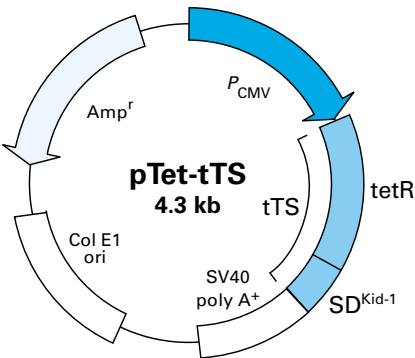

Figure 1. Map of the pTet-tTS vector.
Figure 1. The pTRE-Tight-BI expression vectors. The pTRE-Tight-BI response vectors contain the Tet-responsive element (TRE_{mod}) between two identical minimal CMV promoters (P_{minCMV}) oriented in opposite directions.
pTet-tTS (Figure 1) expresses the tetracycline-controlled transcription silencer (tTS), which is a fusion of the Tet Repressor protein (TetR) with a KRAB silencing domain (SD^{Kid-1}) (1). tTS lowers basal expression of your gene of interest in Tet-On® Expression Systems. In the absence of doxycycline (Dox), tTS binds to the *tetO* sequences in the tetracycline response element (TRE) region of the response plasmid, preventing gene expression. We also offer several premade cell lines that express tTS.
The **Knockout Single Vector Inducible RNAi System**. Our most convenient system (Figure 1). Once your shRNA sequence is cloned in this system's vector, the single plasmid contains all the features necessary for inducible gene knockdown. This system can save weeks of time because your inducible shRNA-expressing stable cell line is produced after only a single round of transfection and selection.
Figure 1. The Knockout Inducible RNAi System is tightly regulated by the tTS transcriptional silencer. In the absence of Dox (**Panel A**), tTS binds *tetO* sequences in $P_{Tight/U6}$, while the KRAB domain of tTS renders the chromatin unable to support shRNA transcription from the adjacent U6 promoter. Dox activates the Knockout System (**Panel B**) by binding to tTS, causing its dissociation from $P_{Tight/U6}$, and resulting in high-level shRNA transcription and rapid target gene knockdown.
Our inducible RNAi systems use a modified form of the tightly regulated, tetracycline-controlled gene expression system described by Gossen & Bujard (1). The system is designed so that expression of an shRNA is induced when either tetracycline (Tc) or doxycycline (Dox; a Tc derivative) is added to the culture medium (Figure 1). Induction of the shRNA results in suppression of the gene targeted by the shRNA through RNAi. The system relies on two components: the tTS regulatory protein, which is a tetracycline-controlled transcriptional silencer (2, 3); and a Tet-responsive promoter ($P_{Tight/U6}$), the activity of which is regulated by the binding of tTS. The tTS protein is a fusion of the Tet repressor protein (TetR) and a KRAB silencing domain, a powerful transcriptional suppressor (3, 4). In the absence of Tc or Dox, tTS tightly binds Tet operator sequences (*tetO*) in the TRE_{Mod} portion of $P_{Tet/U6}$, preventing transcription from the downstream U6 promoter. Adding Dox releases tTS from the TRE and allows shRNA transcription to take place.